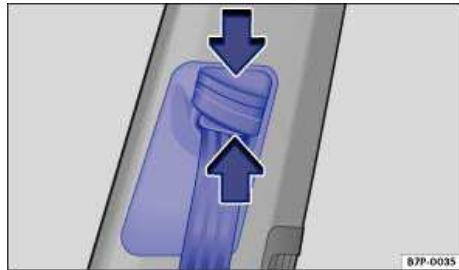

Fig. 67 Next to the front seats: Manual safety belt height adjuster.
- Press and hold the safety belt attachment ⇒ fig. 67.
- Pinch the safety belt attachment together as indicated by the arrows and slide the seat belt attachment to the desired position ⇒ fig. 67.